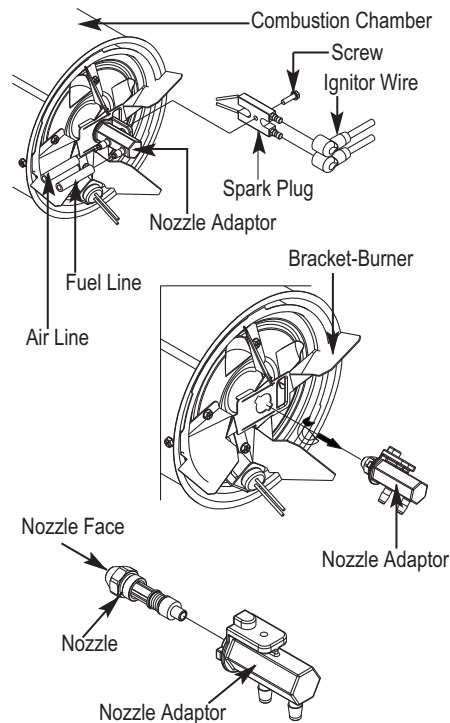

Figure 13 – Nozzle Replacement CP210CK
- Turn nozzle adaptor 1/8 turn (45°) to counter clock wise and pull toward motor to remove. (See Figure 13)